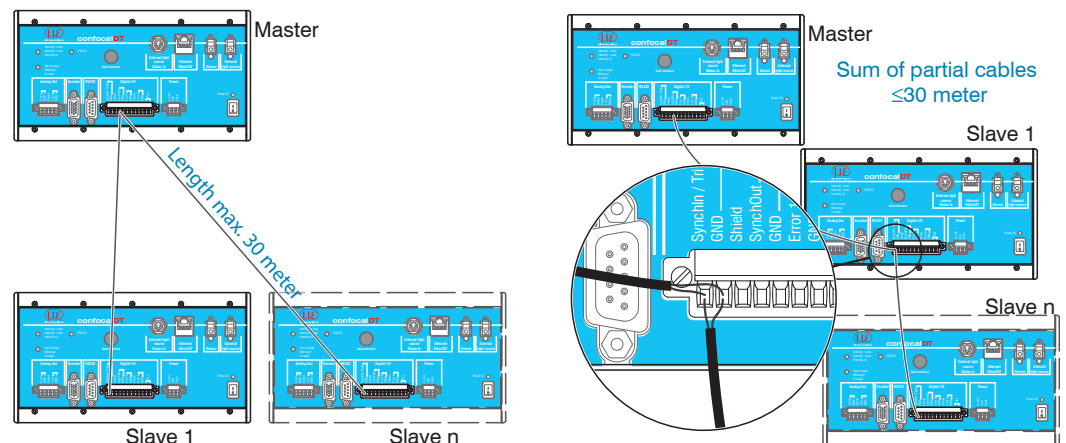

Fig. 12 Synchronization of more controllers, star synchronization (left), cascaded (right)
- Connect the SyncOut output of controller 1 (master) in star configuration with the SyncIn inputs from controller 2 (slave) to Controller n, in order to synchronize two or more controllers, see Fig. 12.
- Connect the SyncOut output of controller 1 (master) with the SyncIn inputs of controller 2 (slave 1). Connect the SyncIn inputs of downstream controllers in order to synchronize two or more controllers, see Fig. 12.